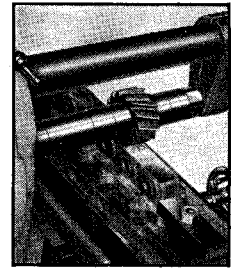
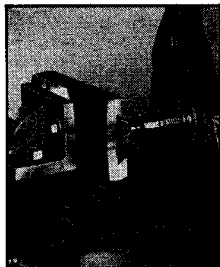

Fig. 8 — SLABBING
Fig. 11—DOVETAILING
The type and size of cutter to use depends entirely upon the shape of the piece to be milled. Some operations would require slab milling (Fig. 8); others, end milling, such as cutting a slot (Fig. 25); or dovetailing (Fig. 11 and 12), in which case a dovetail cutter is used. One very important thing should be kept in mind: When selecting a cutter the size should be the smallest permissible to perform the operation. The larger the cutter the more power it takes to drive it.
For this type of milling operation a plain milling cutter is used. A plain milling cutter is one which machines surfaces parallel to its own axis of rotation. The cutting teeth are only on the periphery of the cutter. The cutting teeth on some plain milling cutters are parallel to the axis of the cutter; others have helical edges which have an advantage over the parallel edge type because the full cutting edge of the tooth does not contact the work at the same time but rather the cut commences at one corner and gradually proceeds across the work in a shearing-like action, thereby resulting in much smoother cutting action. (See Fig. 8.)
5. **DOVETAIL CUTTING:**—For dovetailing it is necessary to use an angular cutter. (See fig. 11.) There are single and double angular cutters. The single angle type, like the one used for dovetailing, has one cutting face inclined at an angle to the axis of rotation of the cutter. A double angled one has two surfaces at an angle to the axis of rotation and are usually used for fluting taps, reamers, and similar work where it is important that two surfaces operated on at the same time are finished equally well.
The two sides of the female dovetail are also cut in the same way; that is, leave the cutter rotation the same and feed from opposite directions. (See fig. 11.)